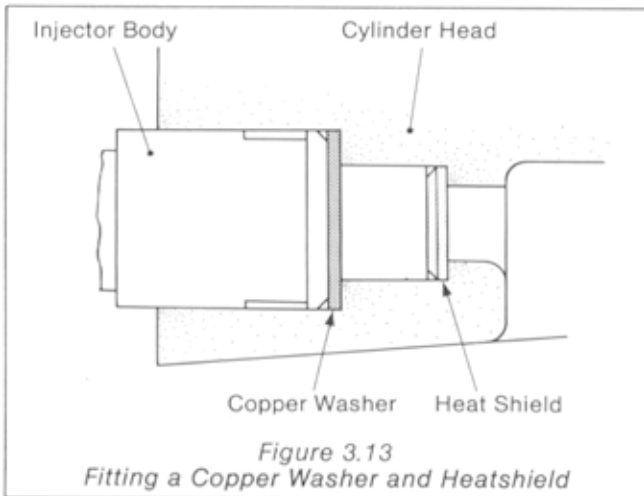

Figure 3.13
- (1) Fit a new injector sealing washer as defined in Table 3.8 and Figures 3.13 and 3.14. If a steel shield washer is fitted ensure that the dimple (apex) is towards the nozzle as shown.